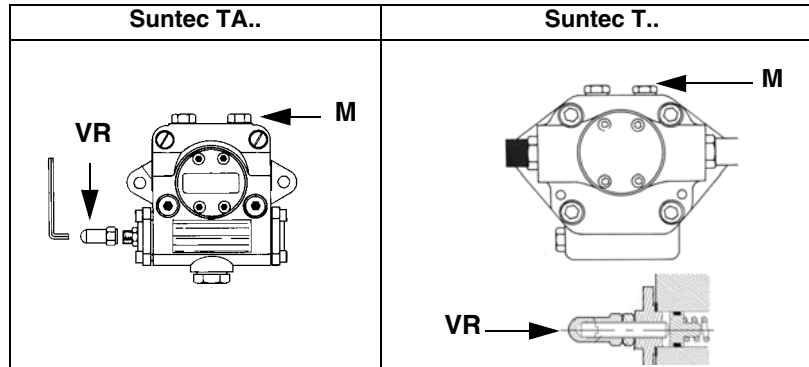

Fig. 22
- 3 bleed the air from the **M** pressure gauge port (Fig. 22) by loosening the cap without removing it, then release the contactor.
- 9 the nozzle supply pressure is already factory-set and must not be changed. Only if necessary, adjust the supply pressure as follows (see related paragraph); insert a pressure gauge into the port shown on Fig. 22 and act on the pump adjusting screw **VR** (see Fig. 22 and page 22) as to get the nozzle pressure at 25bar (Fluidics nozzles - see page 33).
The nozzle supply pressure is already factory-set and must not be changed. Only if necessary, adjust the supply pressure as follows (see related paragraph); insert a pressure gauge into the port shown on Fig. 24 and act on the pump adjusting screw **VR** (see Fig. 22 and page 22) as to get the nozzle pressure at 25bar (Fluidics nozzles - see page 33).